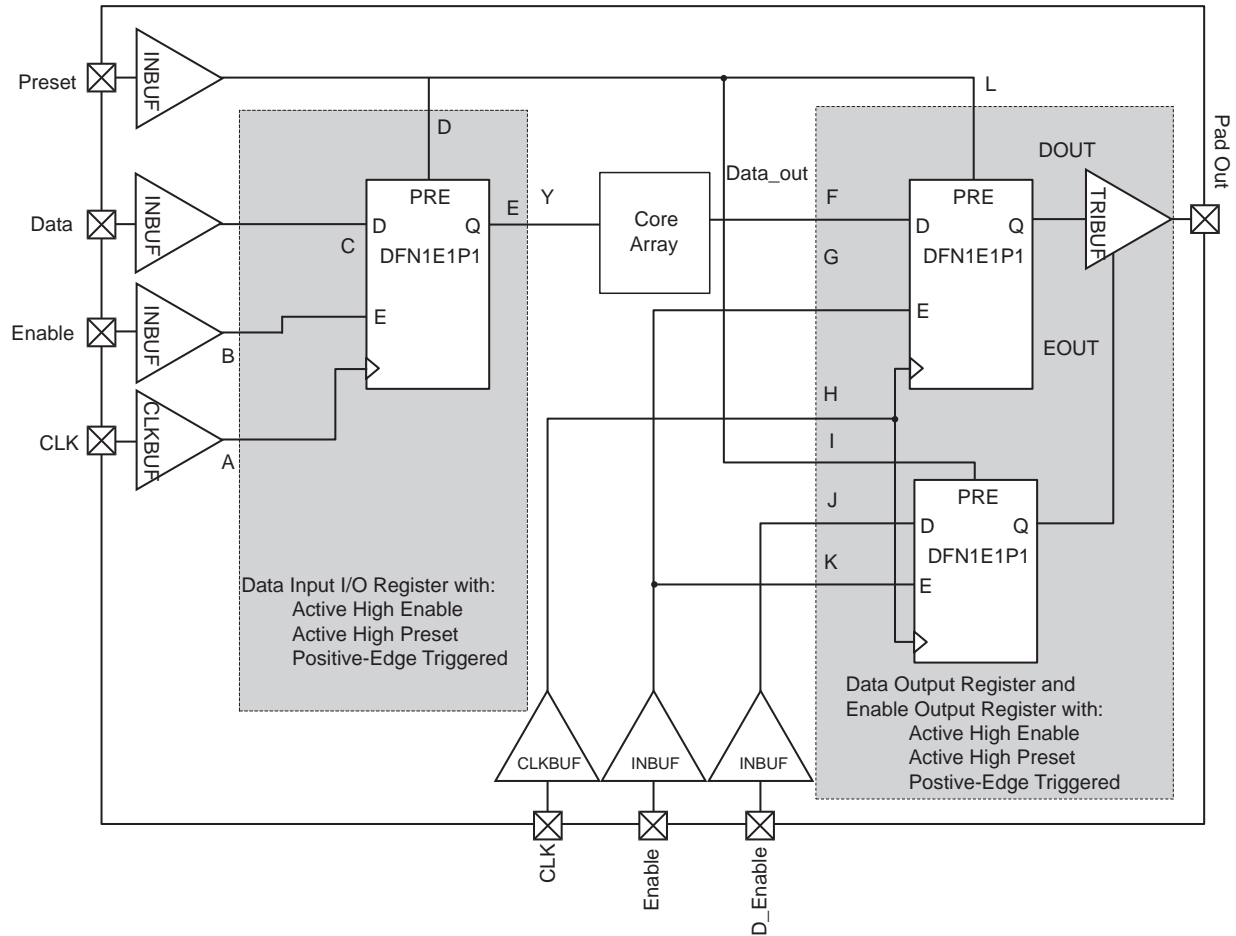

Figure 2-15 • Timing Model of Registered I/O Buffers with Synchronous Enable and Asynchronous Preset
* See Figure 2-15 on page 2-53 for more information.